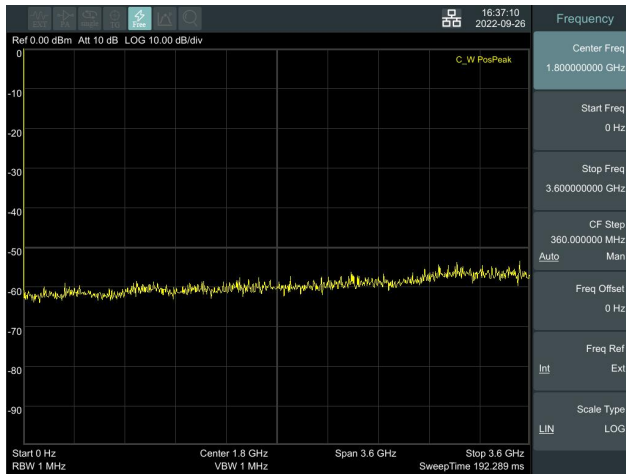

Figure 4-6 Full Span
- 1) Press [Preset] to restore the analyzer to its factory-defined state. The spectrum analysis module will display the spectrum from 9kHz to the maximum span width. The signal generated will display as a vertical line at 100MHz. Refer to Figure 4-6.